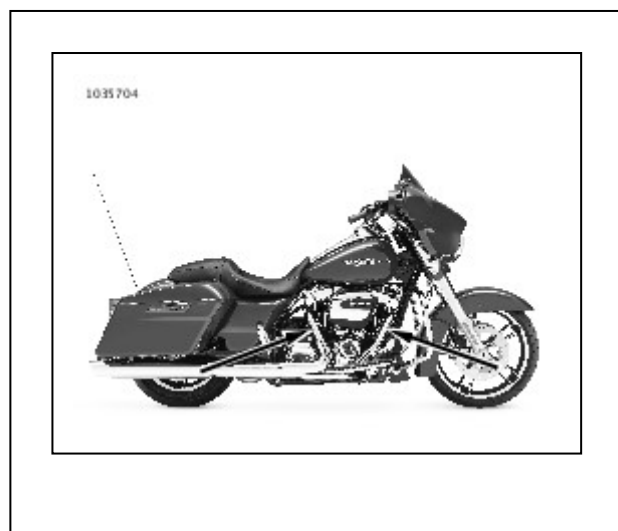

Figure 4. Oxygen Sensor Locations (Inboard Side of Exhaust Pipes)
See **Figure 4** and **Figure 30**. Install wide band heated oxygen sensors (2). Using Oxygen Sensor Socket (Part No. HD-48262-A) tighten to: